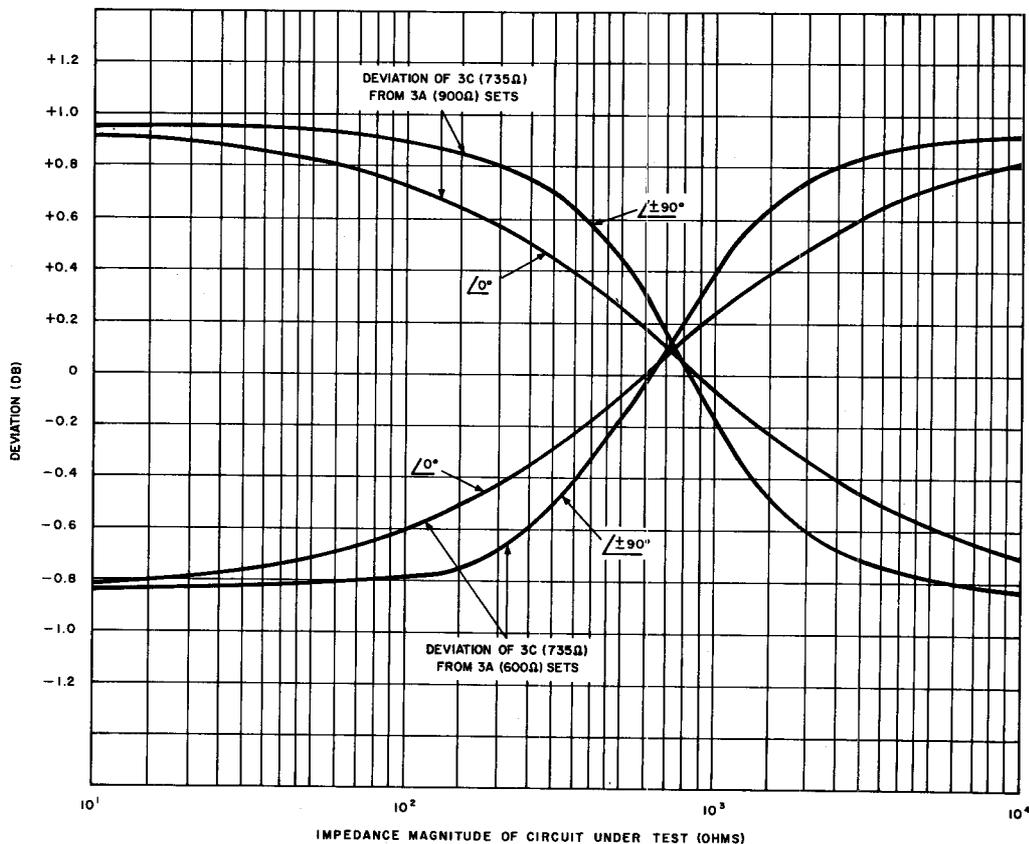

Fig. 8—Measurement Comparison Between 3C and 3A Noise Measuring Sets
4.05 When circuits being measured depart from 600 or 900 ohms, measurements with the 3C NM set differ slightly from measurements with a set whose input impedance is 600 or 900 ohms. Figure 8 shows the errors encountered when measuring such circuits by comparing the differences in indications of a 3C NM set and a set such as the 3A, having discrete 600- or 900-ohm terminations. The 735-ohm input impedance is satisfactory for the applications for which the 3-type noise measuring sets are intended. However, the 3C set should not be used in the terminated condition in critical applications, such as return-loss measurements, that require more precise termination. In such applications, the BRDG input should be used with a 600- or 900-ohm resistor bridged across the input terminals.